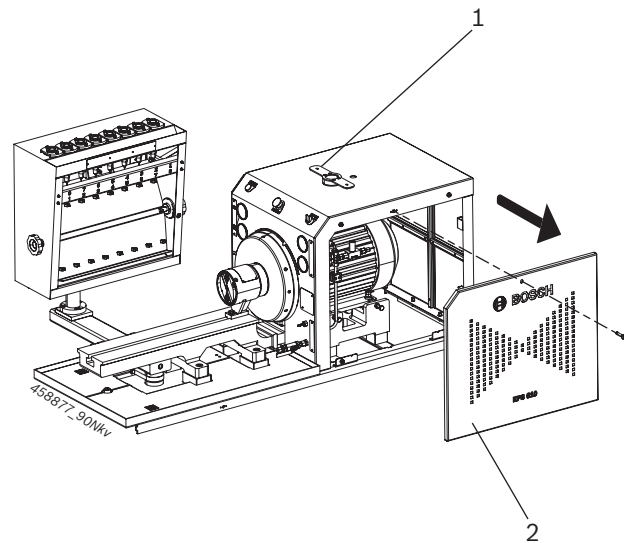

Fig. 12: Opening the motor RH panel
4. Place the HMI on the HMI mounting tray (Fig. 12, Pos. 1).